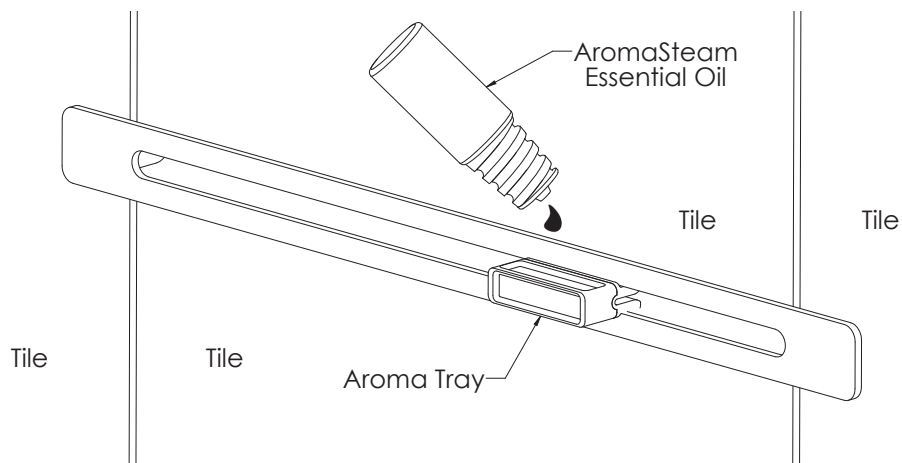
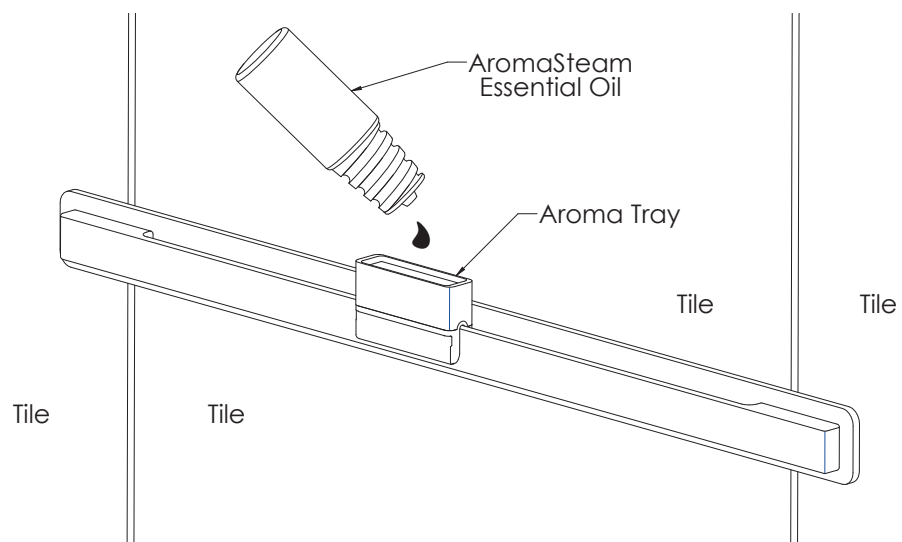

Figure 15
Figure 16
- Place Aroma Tray in steam outlet of Linear Steam Head (see fig. 15) or on Diverter (see fig. 16).